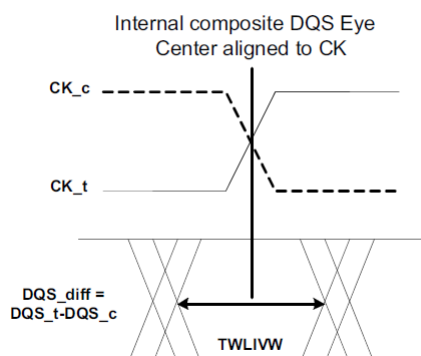

Figure 25. DQS\_t/DQS\_c to CK\_t/CK\_c timings at the DRAM pins referenced from the internal latch
- 28) tWLIVW is defined in a similar manner to tDIVW\_Total, except that here it is a DQS input valid window with respect to CK. This would need to account for all VT (voltage and temperature) drift terms between CK and DQS within the DRAM that affect the write-leveling input valid window. The DQS input mask for timing with respect to CK is shown in Figure 25. The "total" mask (tWLIVW) defines the time the input signal must not encroach in order for the DQS input to be successfully captured by CK with a BER of lower than tbd. The mask is a receiver property and it is not the valid data-eye.